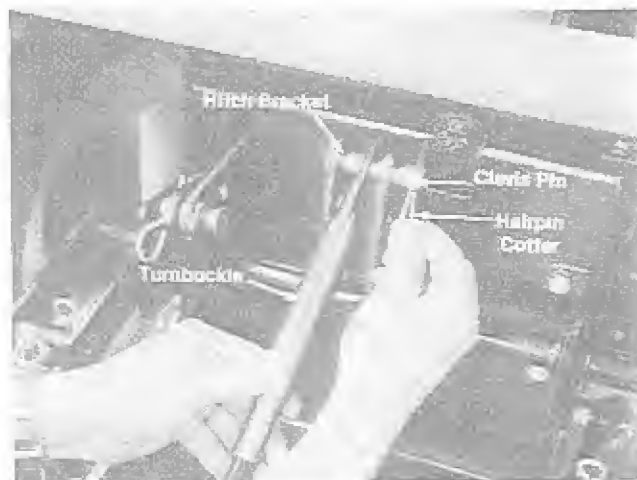

FIGURE 6.
7. Screw the two halves of the center turnbuckle together. Attach either end to any hole in the hitch bracket mounted in the center of the rear frame of the tractor with a clevis pin and hairpin cotter. See figure 6.